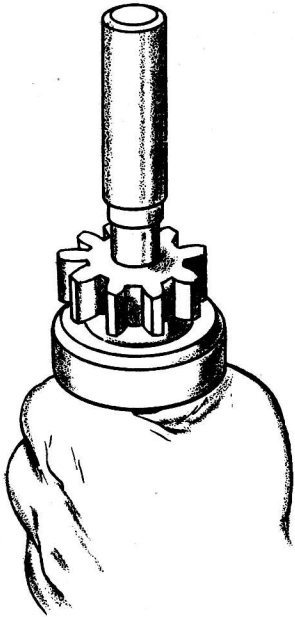

FIGURE 43. RING REMOVAL
4. Remove the ring after driving the pinion stopper toward the pinion gear using a cylindrical tool as shown in Figure 43. The overrunning clutch and the pinion stopper should be removed simultaneously.